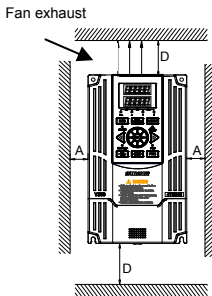

Figure 3-1 Spacing distance for installation
Requirements for installation spacing distance of single frequency inverter are as shown in figure 3-1. Reserve enough space around the frequency inverter.
- As shown in Figure 3-1 and 3-2:  $A \geq 50\text{mm}$ ,  $B \geq 30\text{mm}$ ,  $C \geq 20\text{mm}$ ,  $D \geq 120\text{mm}$